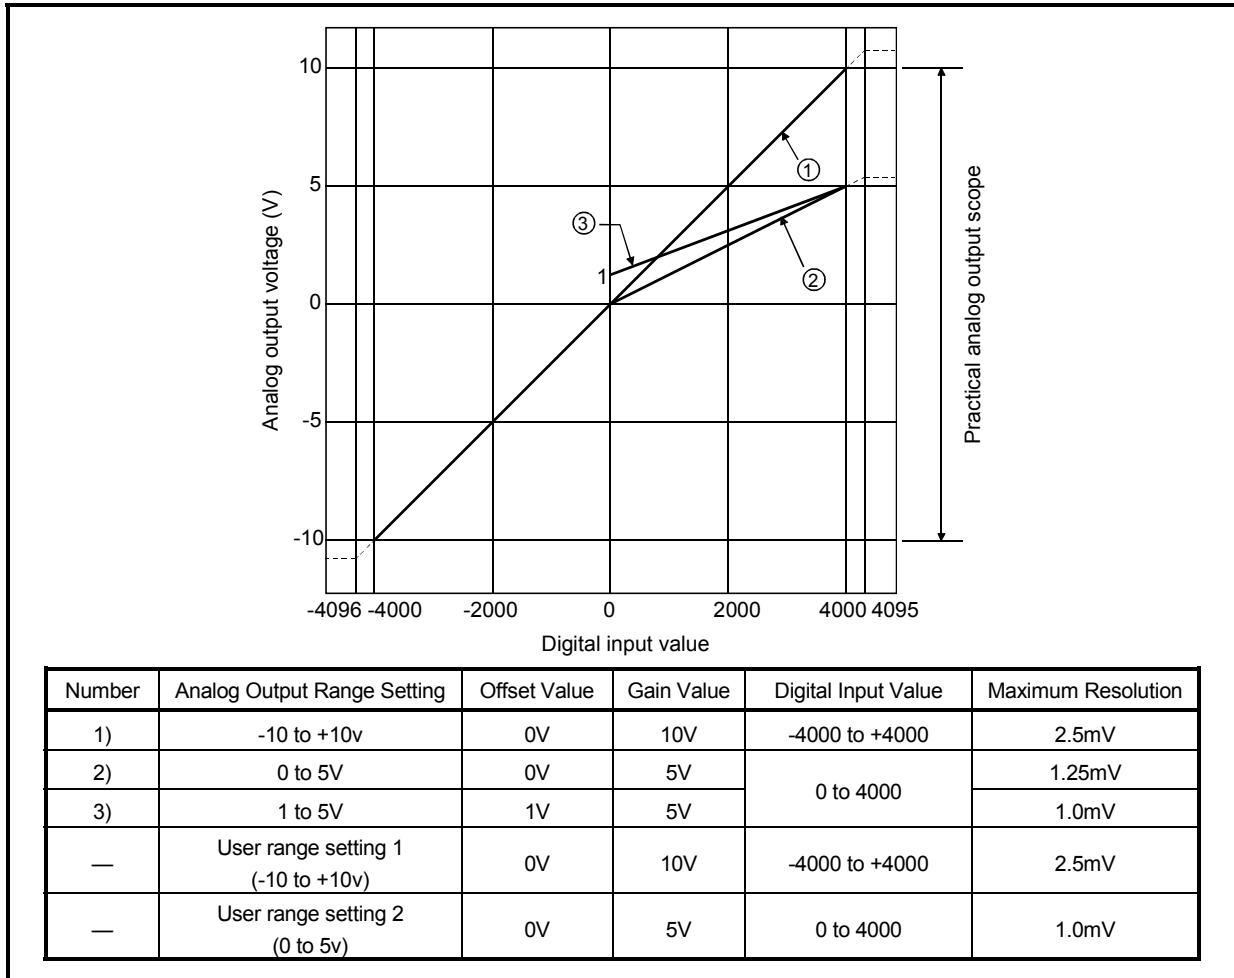

Fig. 3.1 Voltage Output Characteristic
<p>(1) Within the digital input and analog output scopes of each output range, the maximum resolution and accuracy are within the performance specification range. Outside those scopes, however, they may not fall within the performance specification range. (Avoid using the dotted line part in Fig. 3.1.)</p> <p>(2) Set the offset and gain values of the user range setting within the range satisfying the following conditions.</p> <p>(a) Setting range when user range setting 1 is selected: -10 to +10V</p> <p>(b) Setting range when user range setting 2 is selected: 0 to 5V</p> <p>(c) (Gain value) > (Offset value)</p> <p>If you attempt to make setting outside the setting range of (a) or (b), the "RUN" LED flickers at 0.5s intervals. Set the values within the setting range.</p> <p>If you attempt to make setting outside the setting range of (c), the "RUN" LED flickers at 0.5s intervals. Make setting again.</p>